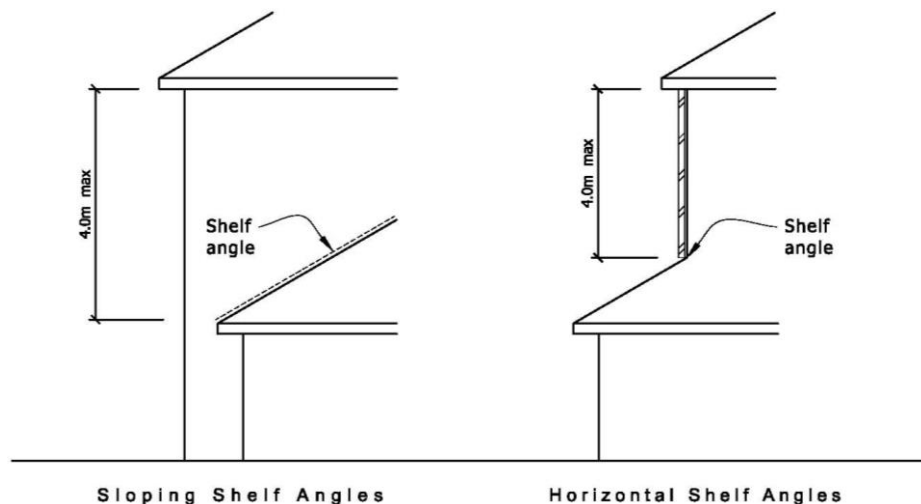

Figure 2 – Shelf Angles
- The maximum veneer panel height above a shelf angle over a skirt roof is to be 4m, measured as shown in Figure 2 below.